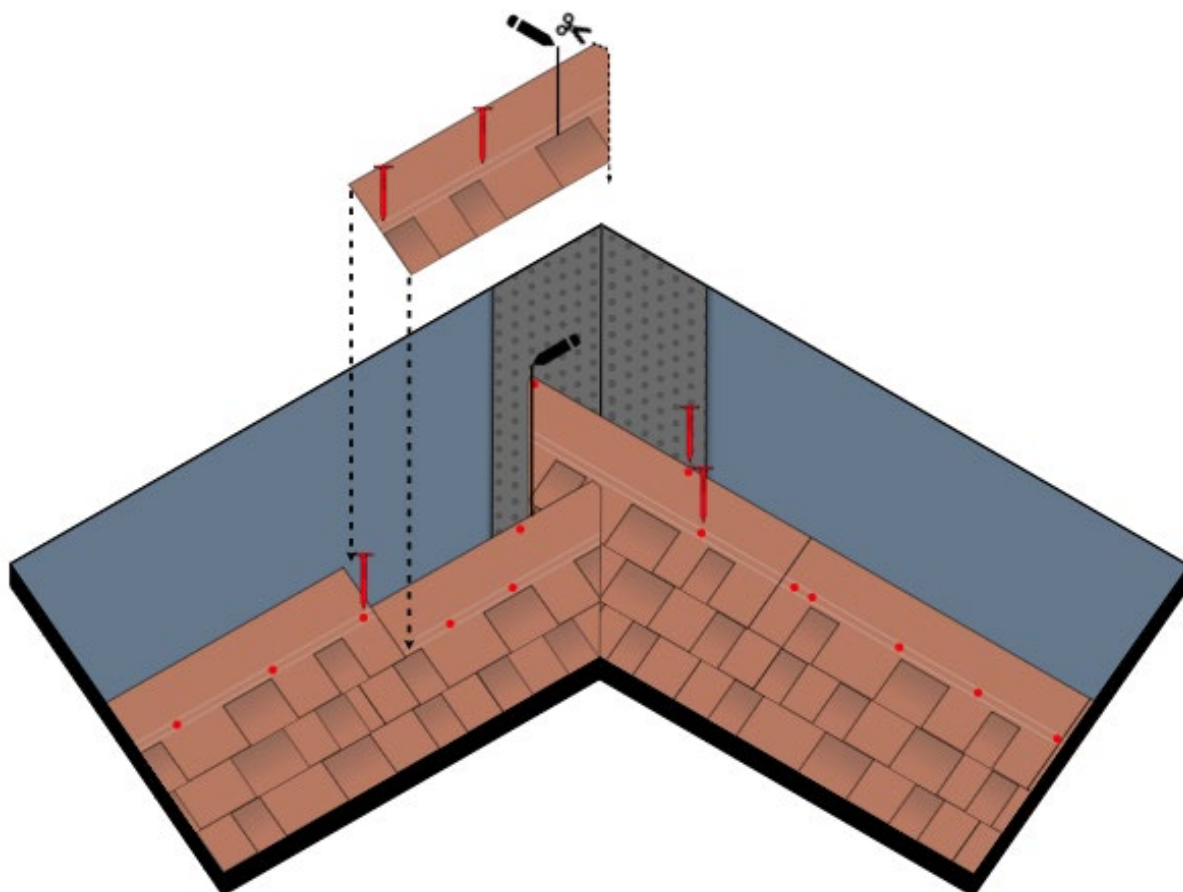

Fig. 15 - Shingles installation at valleys
- Once you have completed the first pitch for the entire length of the valley, move to the adjacent pitch. Start installing the Start Line SA and continue with the installation of the successive rows of shingles. The last shingle in each row must reach at least the axis of the valley - Fig. 15.
- Nail the shingles up to 30 cm from the axis of the valley. Once the installation of the shingles is completed even for the second pitch, trace the axis of the valley. Then cut the shingles of the second pitch following the valley line. Cross-cut the top edge of the shingle at the valley - Fig. 15, so as to convey the descending water along the axis of the valley. Lift the shingles one at a time and fix them with the Bitustick- Fig. 15.